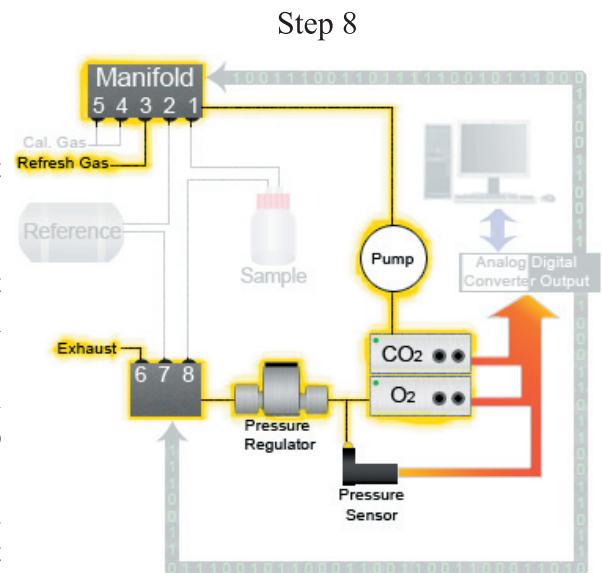

Figure 13
Step 8: After we measure the head space of the first sample, the gas sensors are purged to remove any residual sample gas (Figure 13). This is necessary in order to prevent the previous sample's readings to interfere with the next, and to prevent them from mixing back into the next sample's head space.